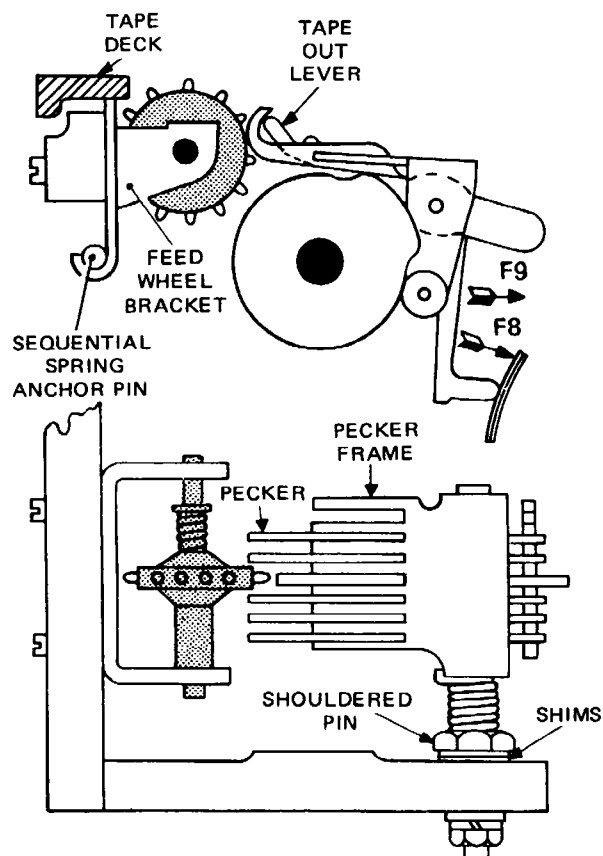

Fig. 4.55 FEED MECHANISM
- 60.1 Trip the camshaft and, whilst turning the camshaft slowly, check that each pecker, Fig. 4.55, moves freely in a tape guide slot of the tape deck.
blades off each pecker (force F8 of Fig. 4.55) is 24–32 grams.
- 62.1 Set the unit to the start condition, depress and hold down the tape-out lever, Fig. 4.55, depress the TAPE TRANSMITTER ON key and turn the camshaft until the peckers just rise to the maximum height, but before the sequential levers are lowered. Check that the force F9 required to move the pecker frame is 380–420 grams.
- 67.2 To position the feed wheel centrally, remove the sequential spring anchor pin, Fig. 4.55, slacken the two screws securing the feed wheel bracket, slide the bracket sideways to correct the positioning whilst at the same time maintaining the bracket in contact with the underside of the tape deck, and secure the bracket. Ensure that the feed wheel teeth protrude above the tape deck correctly.